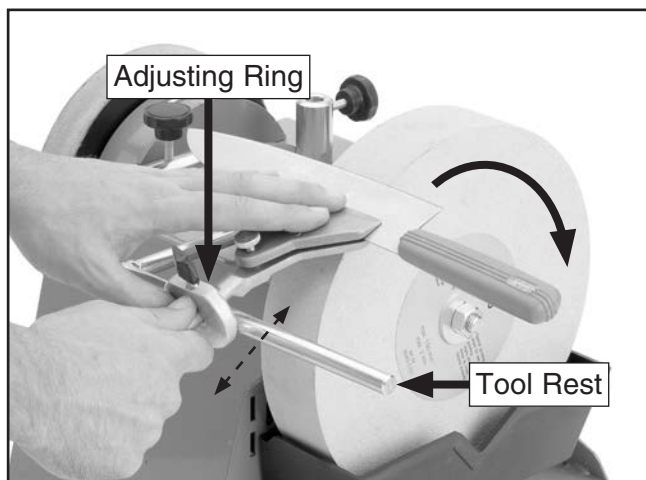

Figure 6. Example of grinding knife supported by jig (T32796 shown).
9. Rest clamp against tool rest (see **Figure 6**).
11. Adjust position of adjusting ring to fine-tune grinding/stropping angle (see **Figure 6**).